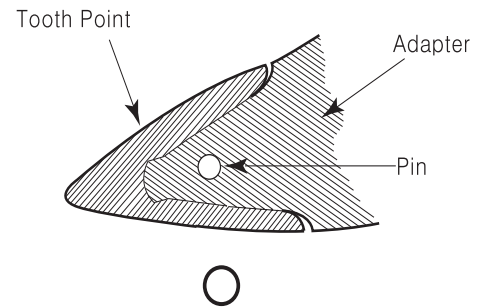

Figure 1
1. On a routine basis, inspect the bucket teeth to make sure that tooth wear or breakage has not developed. Do not allow the replaceable bucket teeth to wear down to the point that the bucket adapter is exposed. See Figure 1.